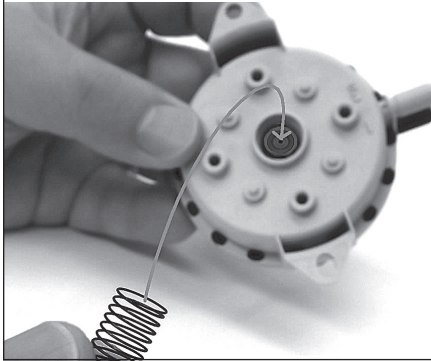

FIGURE 2 – INSERT THE SET POINT ADJUSTMENT SCREW
- 3.** Before the pressure switch is calibrated, the Normally Open and Normally Closed terminals are reversed. A range spring and set-point adjustment screw must be installed, with approximately 3 clockwise turns of the adjustment screw to engage the internal snap-switch mechanism. As the mechanism is engaged, a "click" may be heard and the NO contact will open and the NC contact will close. At this point the pressure switch will be at the minimum set-point for the installed spring. If no click is heard, a continuity tester can be used to determine when the screw has been installed deep enough to engage the mechanism (see **FIGURE 2**).
2. **Insert the set point Adjustment Screw.** Place the black set point adjustment screw (from the kit) on the end of the hex wrench and insert it into the well over the spring. Rotate the screw slowly clockwise, just until the threads engage (see FIGURE 2). This completes the assembly of the switch.